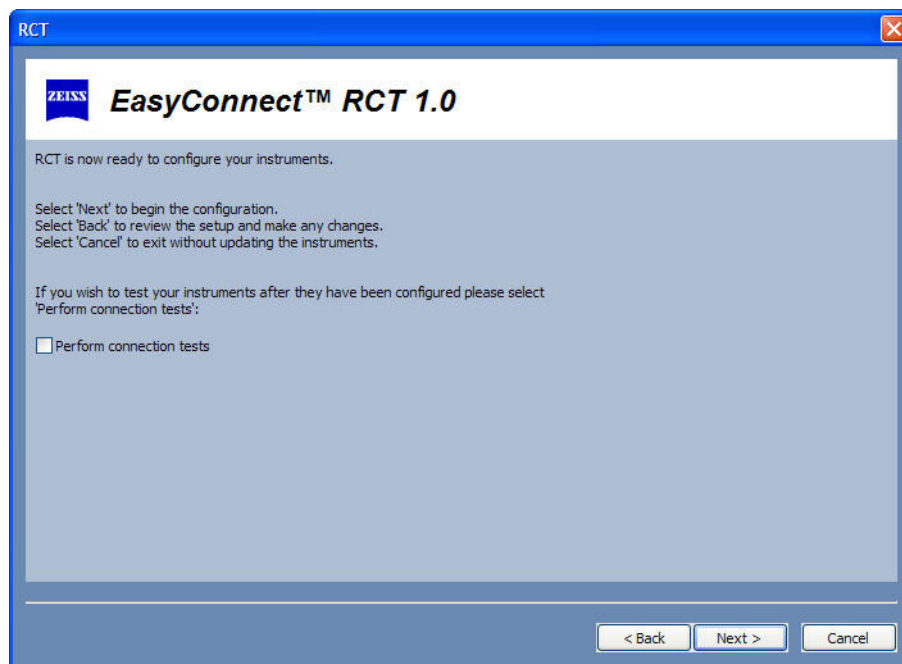

Figure G.33 Commit Screen
- 10 After all instruments have been configured, the RCT will display a Commit screen (Figure G.33) before sending configuration messages to any instrument. This screen gives you a last chance to make corrections before committing the specified changes. Select BACK to go back to the previous screen(s) to make any corrections. Selecting CANCEL will exit the RCT without configuring any of the selected instruments.